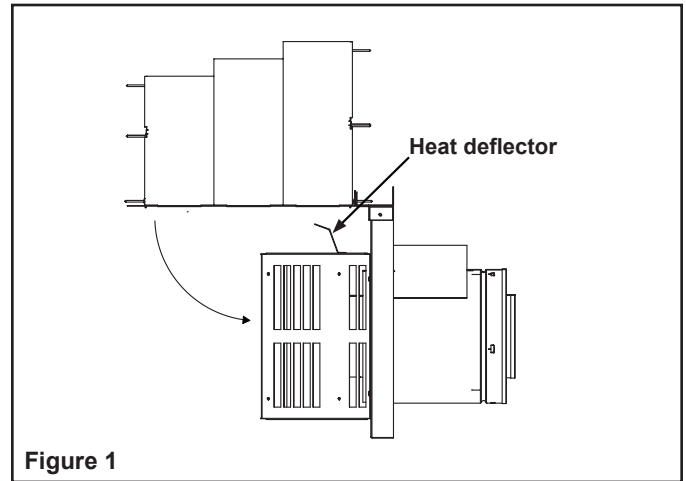

Figure 1
1. With the decorative cover oriented so the largest loop is at the top, hook the rectangular frame over the heat deflector on the cap and swing it down into place. See Figure 1. Continue to Step 2.
2. Set the decorative cover against the firestop of the cap, making sure that the cap mounting screws are centered in the clearance holes in the frame corners. Drive four (4) of the supplied self-drilling screws through the pilot holes in the decorative frame into the fire stop.
3. Place the top screen in position around the cap's heat deflector and secure it with the remaining four (4) screws and washers.